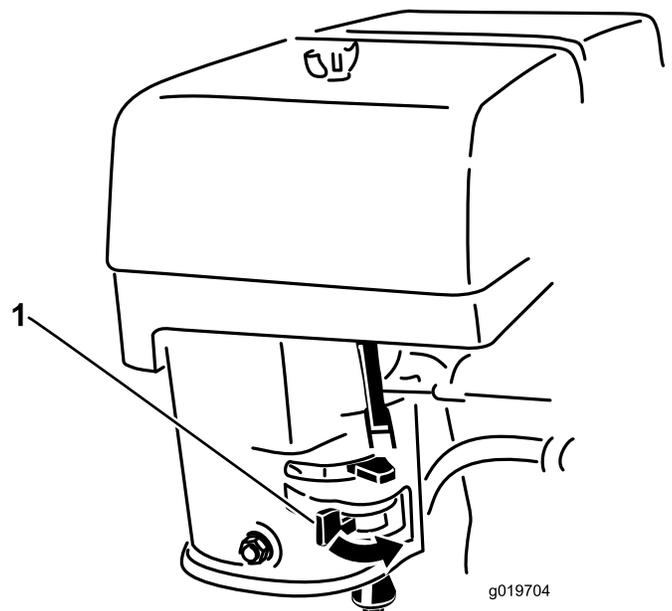

Figure 13
2. Move the fuel valve to the On position (Figure 13).